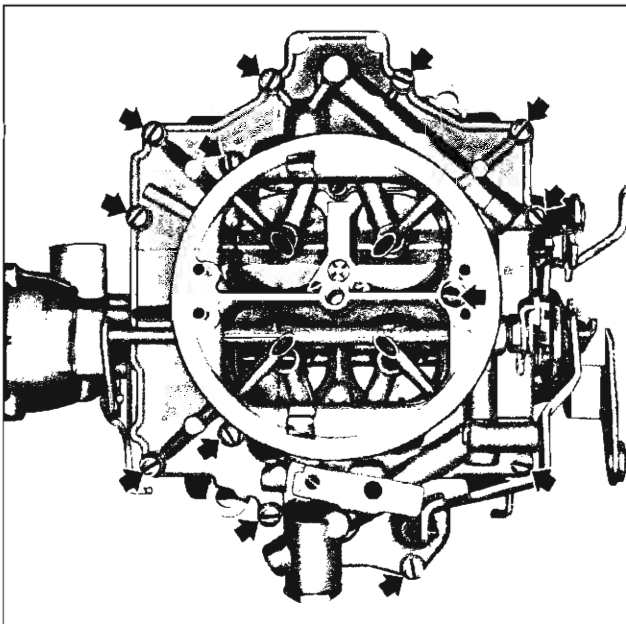

Fig. 55—Bowl Cover Attaching Screws
6. Remove 13 cover attaching screws (fig. 55) and break cover loose using finger pressure only. Do not pry the cover loose.